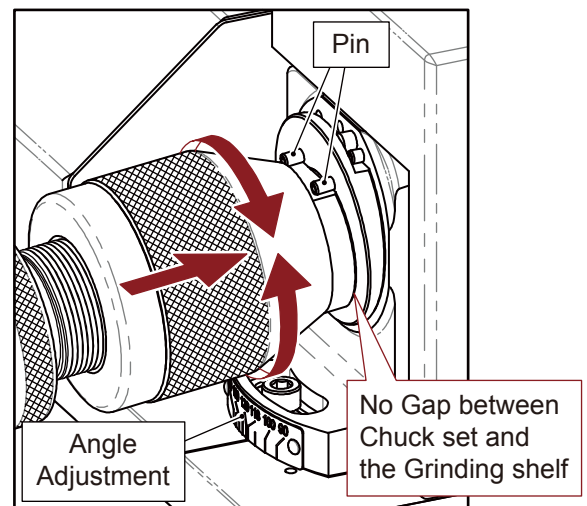

Fig. 8-1
1. Cutting Lip Grinding (Fig. 8-1)
- ① Insert the Chuck set into the Cutting Lip Grinding Shelf, the slot of Chuck set must fit with the two pins of the shelf, push the Chuck set gently and turn it clockwise and counterclockwise until the grinding noise stops.
- ② Take the Chuck set out, turn it to the other side and grind the drill in the same way.
- ① Check the condition of position block. Please contact with your agent for replacement.
- ② While operating, check chuck set is tightly connect to any of the grinding shelf without gap. (See page 13, Fig 8-1 and Fig 8-2)
- ③ Check the drill is fastened tightly by chuck set. (See page 11 “3. Drill Positioning”)
- ④ Check the point angle of the drill complies with the point angle adjustment set.